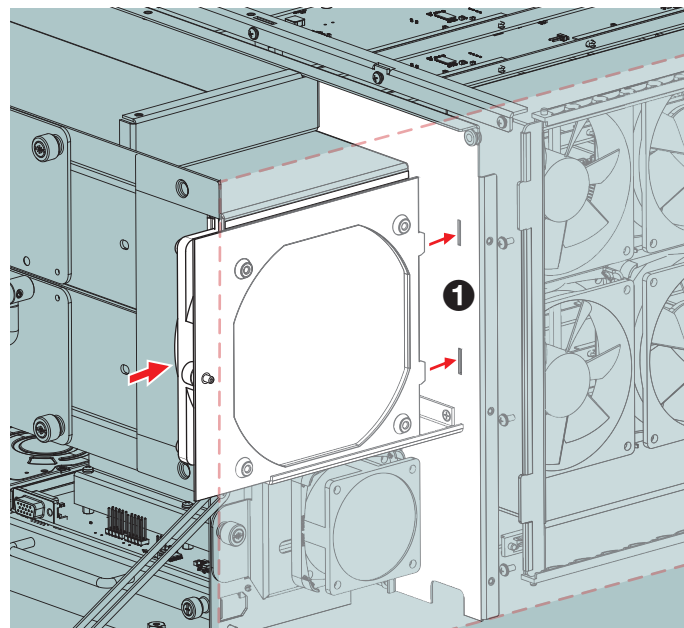

Figure 109. Inserting the Replacement Fan
6. Slide the fan straight back into the chassis until the tabs are inserted into the slots (see figure 109, ❶). Ensure that the ends of both cables are not trapped behind or under the fan and are accessible from the front.